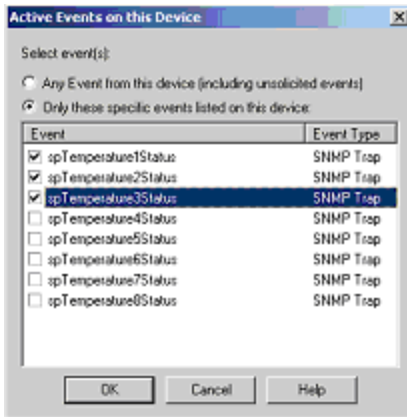

Figure 14 Active Events dialog box
5.8 Press Select Events button to open Active Event dialog box shown in Figure 14.
5.9 Select only these specific events listed on this device and activate desired trap events by clicking the check box corresponding to them. WhatsUp Gold will send a notification when it receives an active trap event. In figure 14, the first three events are active.